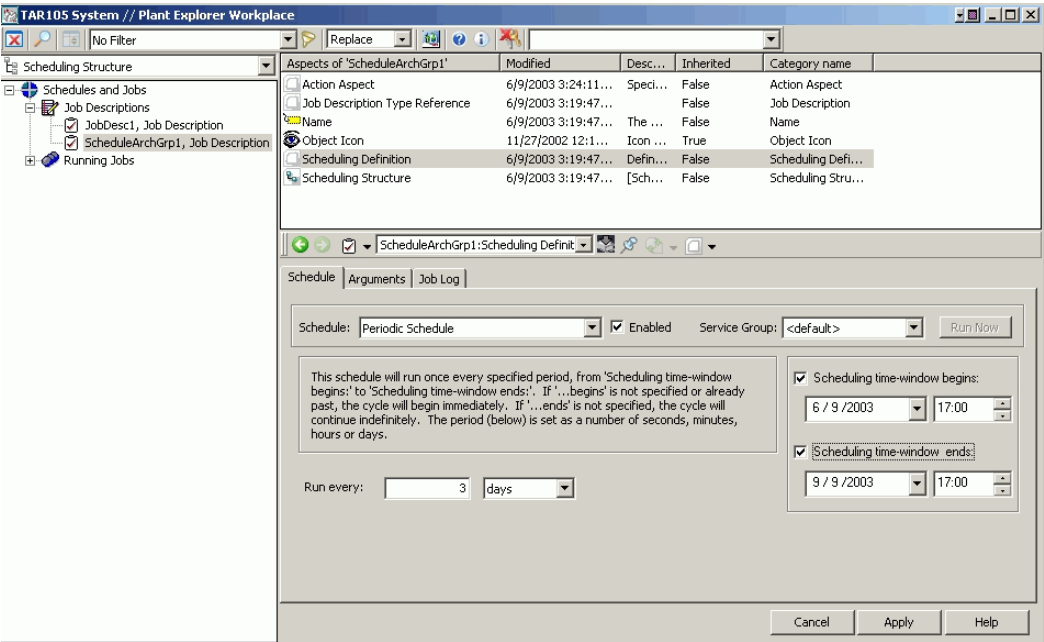

Figure 243. Scheduling Definition Configuration View
6. Click on the **Scheduling Definition** aspect to display the configuration view, Figure 243. This figure shows the scheduling definition aspect configured as a periodic schedule. A new archive will be created every three days, starting June 9th at 5:00 PM, and continuing until September 9th at 5:00 PM.